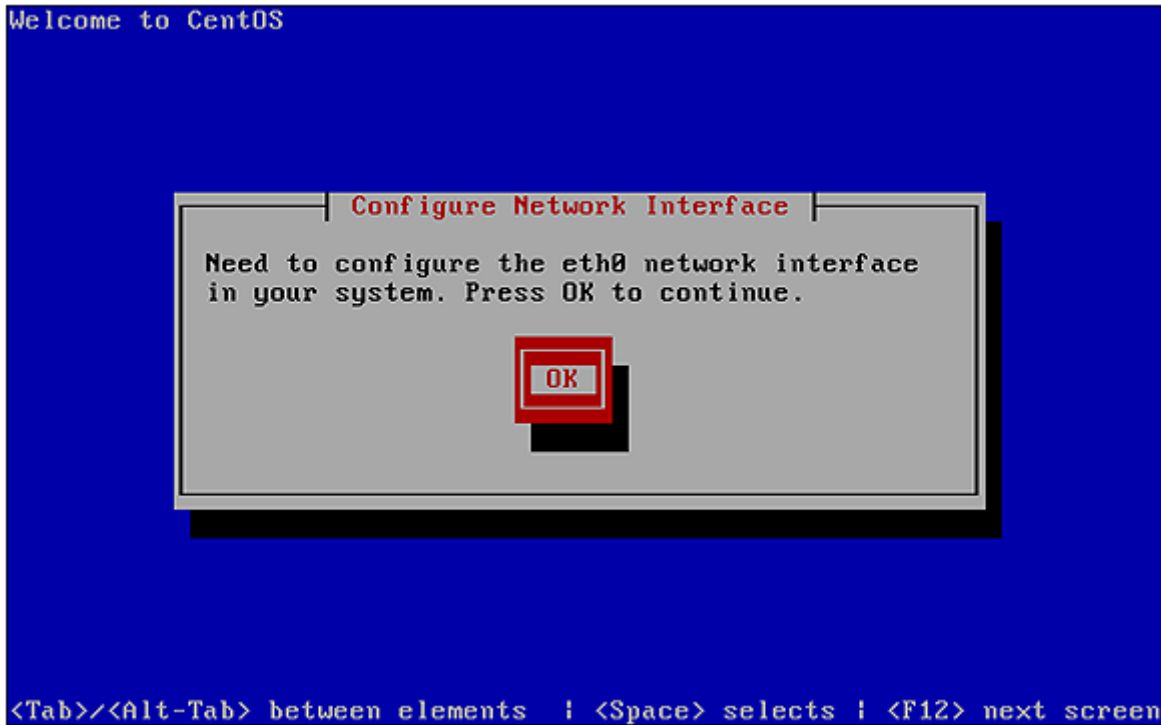

Figure 4: network parameters configuration request.
7. Keep waiting till following screen appears and press Ok (Figure 4)